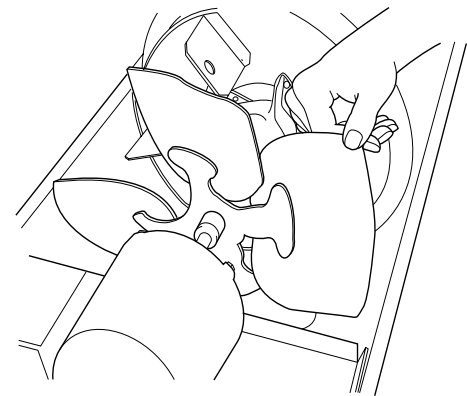

Figure 11- Turning Fan with Hand
3. Turn fan with hand (see Figure 11).